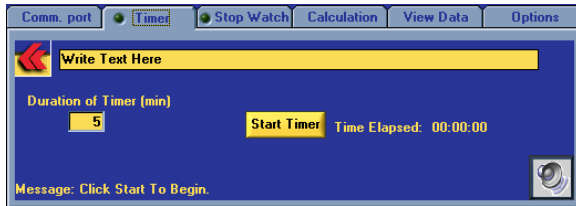

Figure 5: Timer Tab
- 5. Timer Tab.** The timer is provided for the convenience of the user and can be used for any laboratory need such as the timing of sample heating or preparation. The timer tab is shown in Figure 5.